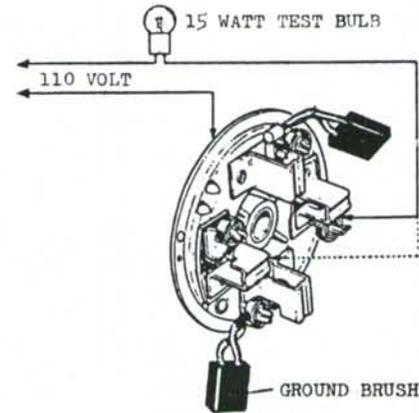

Fig. 142—Check both insulated brush holders as outlined in paragraph 184.
**184. INSULATED BRUSH BOX TEST.** Two of the brush boxes on brush holder assembly must be insulated from the assembly itself. Connect a 110 volt, 15 watt, AC current test light as shown in Fig. 142 and touch test light lead to each insulated brush holder in turn. If test light comes on, insulation between brush box and brush holder assembly is faulty and brush holder assembly must be renewed.